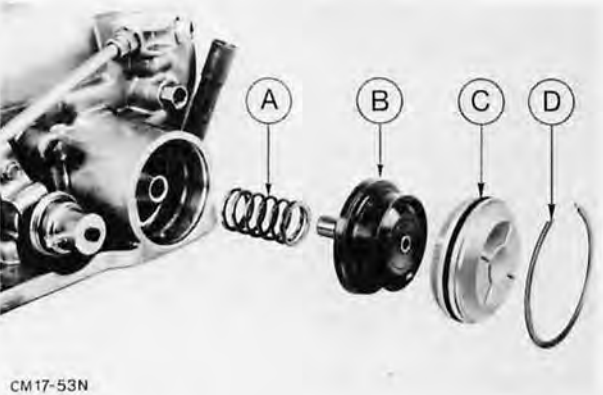

Fig. 115. Front servo
41. Immerse servo piston in oil and fit cover. Insert coil spring and piston complete with cover in housing and secure, Fig. 115.